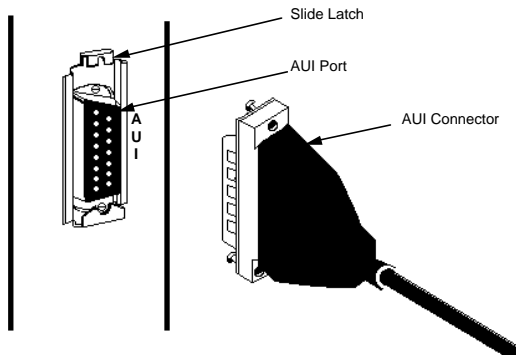

Figure 3-2. AUI Connection
To connect your Ethernet device to the FOT-F3, attach an AUI cable as follows. See Figure 3-2.
**NOTE:** *Be sure each cable is securely attached to its port and that the slide latch on the AUI connector is secured to the lock posts on the AUI port. See Figure 3-2.*